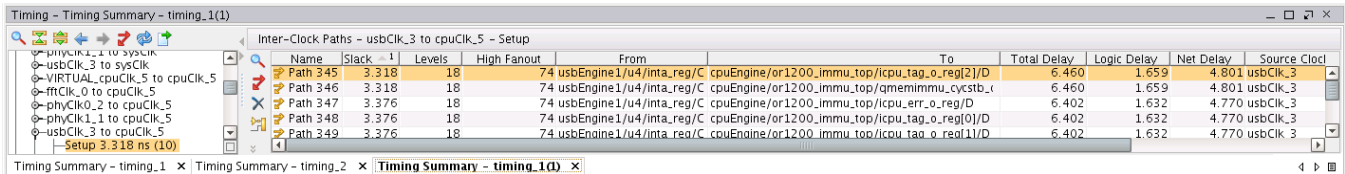

Figure 25: Worst Timing Path in the Design
3. Click on the **Worst Negative Slack** link in the design timing summary section to see the worst timing path in the design, as shown in Figure 25.